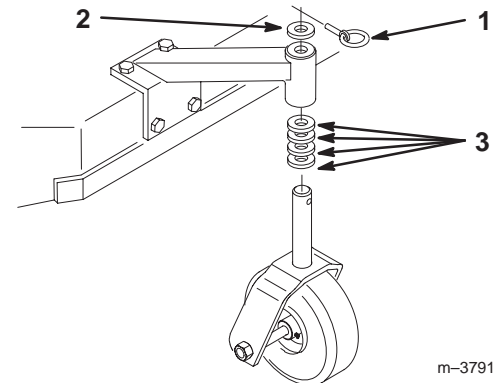

Figure 23
- Using the height-of-cut chart, adjust the caster spacers to match with the axle hole selected (Fig. 23).
- Remove clevis pin, slide caster from support and change spacers (Fig. 23).
- Install caster in support and insert clevis pin (Fig. 23).